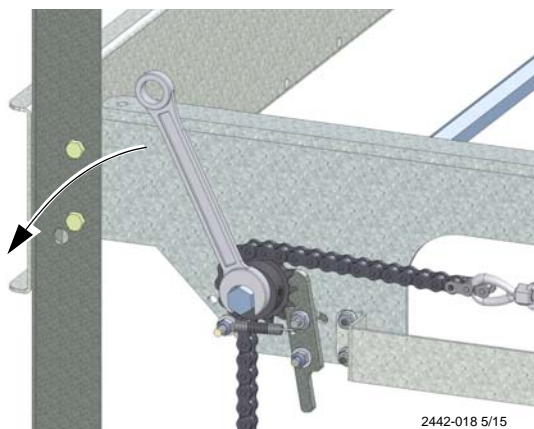

Figure 11. Coarse tension Adjustment (Tightening)
1. One person can increase belt tension by placing a 3/4" Wrench onto the end of the Hex Shaft protruding from either side of the system **See Figure 11**. Make sure that the Sprocket Catch engages the Sprocket when finished tightening.